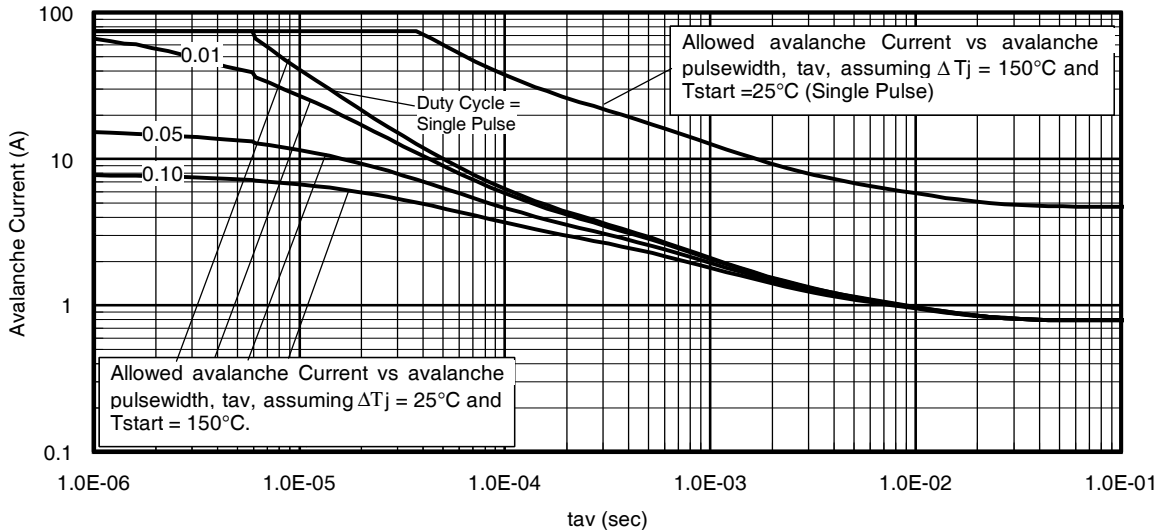

Fig 14. Typical Avalanche Current vs. Pulsewidth
Notes on Repetitive Avalanche Curves , Figures 14, 15:
7. ΔT = Allowable rise in junction temperature, not to exceed Tjmax (assumed as 25°C in Figure 14, 15).